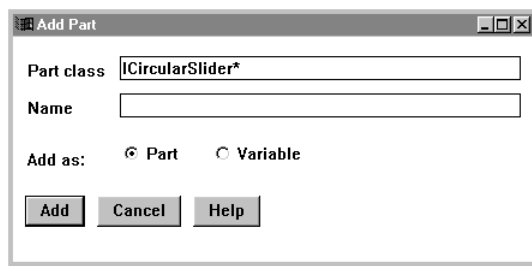

Figure 43. The Add Part Window
1. Select **Add part** from the **Options** pull-down menu. The Add Part window appears, which resembles the window shown in Figure 43: